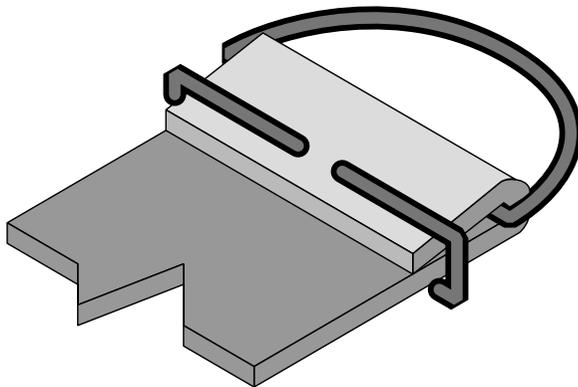

Figure 8: D rings for straps made from re-bar.
- 7) If you are going to use the saddle for pulling carts make up a belly strap, a breeching strap and a breast strap to hold the saddles onto the donkeys. The D rings at the end of the straps can be made from 6 mm diameter concrete reinforcing bar as shown in Figure 8. A separate piece of the re-bar is clenched over the strapping using hammer blows to fix the D rings to the ends of the straps as shown. The straps themselves can be made from heavy canvas or